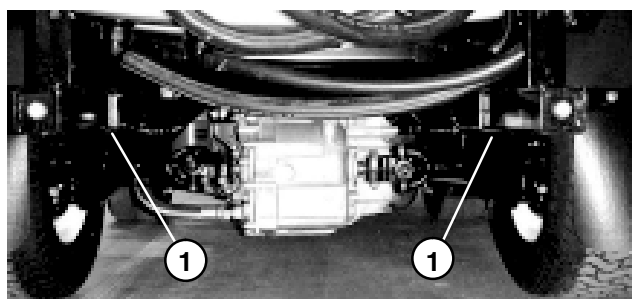

Figure 2
2. Place jack securely under the rear most frame supports between the angle welds (Fig. 2).